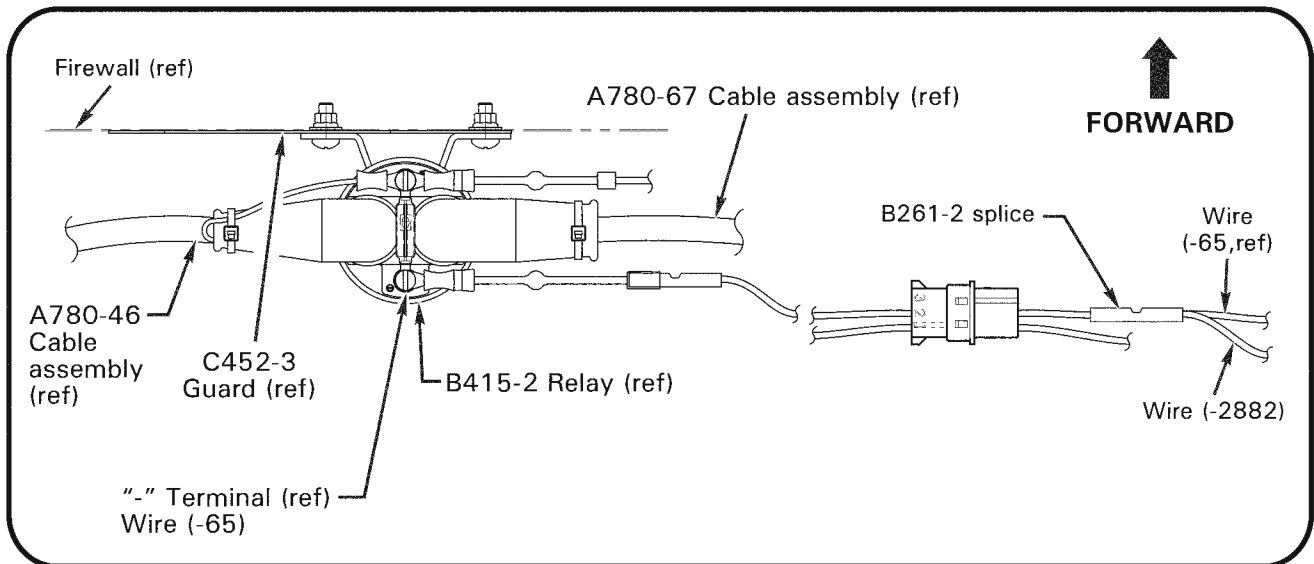

FIGURE 3 B261-2 Splice location
18. Refer to Figure 3. Locate wire (-65) along aft battery relay wire installation, cutting ty-raps as required. Splice wire (-2882) from F693-9 harness assembly to wire (-65) using B261-2 butt splice as shown; verify security.